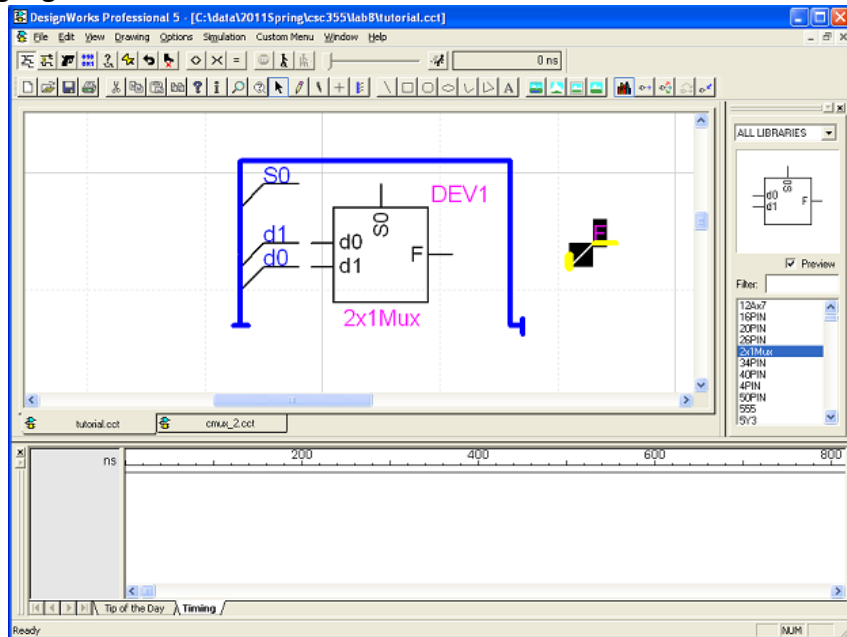

Figure 16
- e. Repeat the process for “F” and “d0” and “d1”. Note that entering “d0 . . 1” and the two pins will be created at once. Also, highlighting the pin allows the use of flip/rotate to get the desired orientation before it is placed on the bus. Figure 16 shows the pin “F” highlighted.